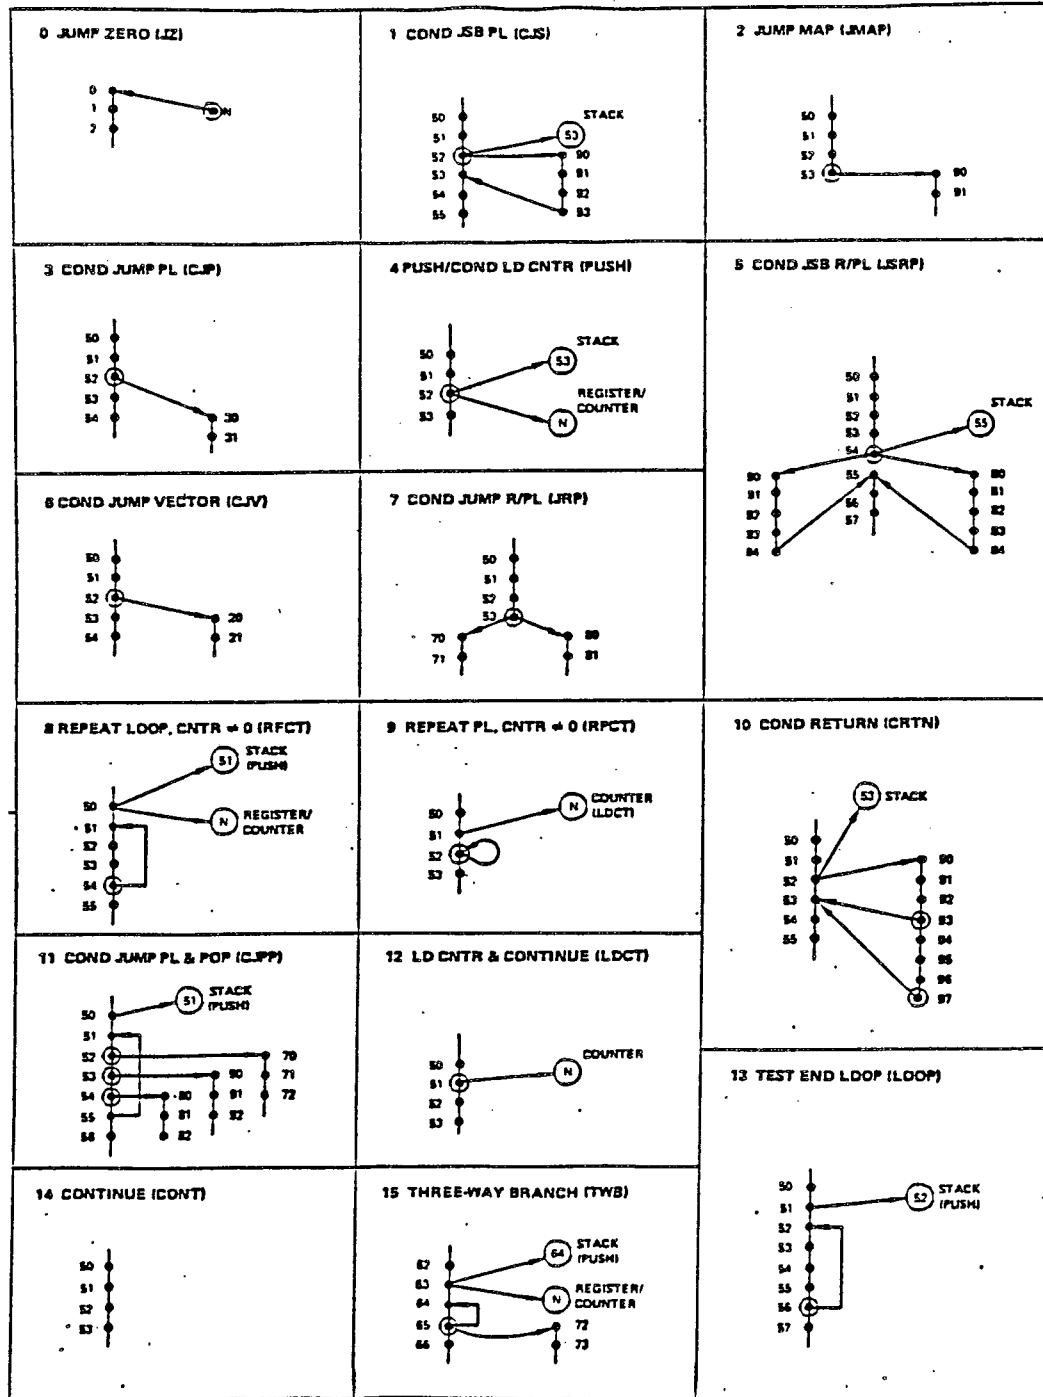

Figure EB-6. Am2910 Instruction Set
- All 16 Am2910 instructions are usable with some restrictions. See Figure EB-6.